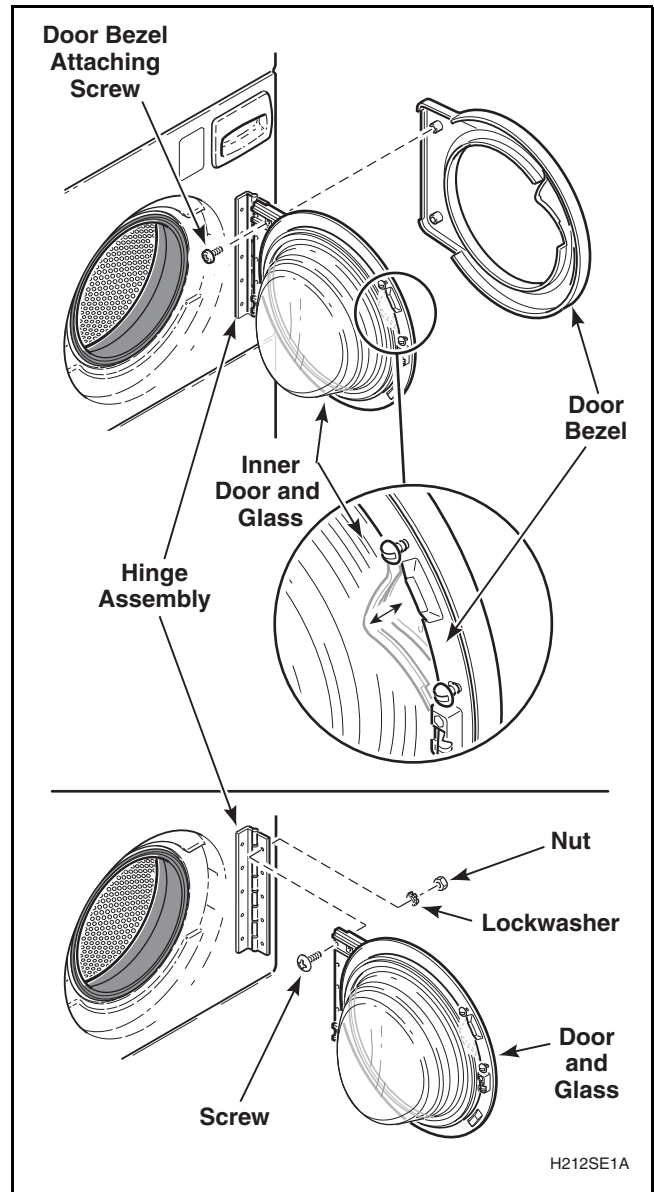

Figure 21
- Remove door bezel by prying inside lip up and forward with fingers. Refer to *Figure 21*.
- While supporting loading door, remove screws, lockwashers and nuts holding loading door to hinge assembly and remove door. Refer to *Figure 21*.